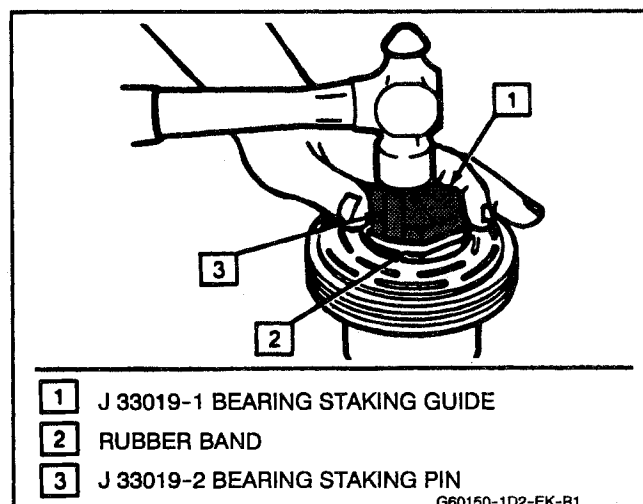

Fig. 11 Staking Bearing In Rotor Hub Bore
3. Place bearing staking guide J 33019-1 and bearing staking pin J 33019-2 in the hub bore as shown in Figure 11. Shift the rotor and bearing assembly on the J 21352-A support block to give full support of the hub under the staking pin location. A heavy-duty rubber band may be used to hold the stake pin in the guide (Fig. 11), and the stake pin should be properly positioned in the guide after each impact on the pin.